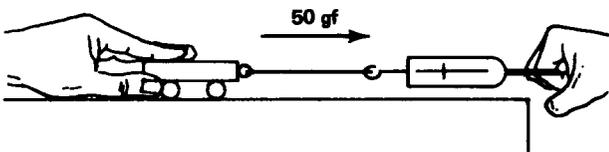

Figure 5-2
1. Place the small cart on the floor. Attach a thread about 50 cm long to the cart. Tie a loop on the other end of the thread and hook the spring scale to the loop. Hold the cart firmly with one hand to prevent it from moving and pull the scale until it registers 50 gf of force (Fig. 5-2). Notice that on the diagram an arrow is used to represent the direction in which the force is being exerted.